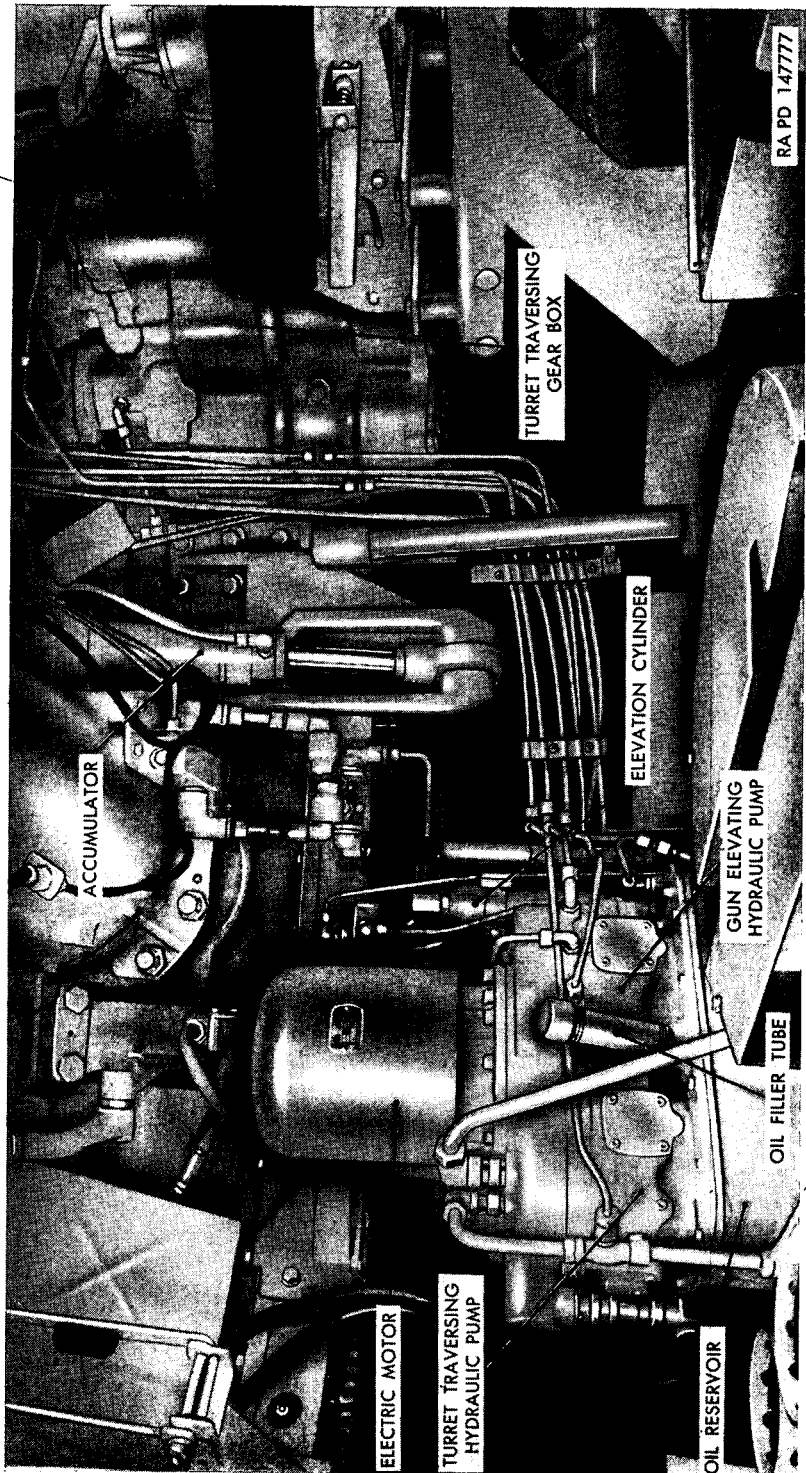

Figure 296. Turret traversing and gun elevating system.
- (2) *Power traversing system* (fig. 296). In the power traversing system, electrical impulses from the commander's control handle (fig. 26) or the gunner's control handle (fig. 22) operate an electric motor which controls the turret traverse pump. This pump feeds oil from an oil reservoir to a hydraulic motor which drives the gear train to traverse the turret.
a. CHECK OIL LEVEL IN OIL RESERVE (fig. 296). Remove cap from oil filler tube and check oil level in oil reservoir. Oil level must be maintained at "FULL" mark on indicator.
b. DRAIN OIL RESERVOIR. Wipe off outside of oil reservoir (fig. 296). Place a clear container of at least 1½-gallon capacity under the reservoir. Remove four drain plugs and allow reservoir to drain. Install four gaskets and drain plugs.
c. FILL OIL RESERVOIR (fig. 296). Clean top of reservoir. Remove cap from oil filler tube and check oil level as outlined in a above. Add oil as specified on lubrication order (fig. 87) to keep oil level at "FULL" mark.